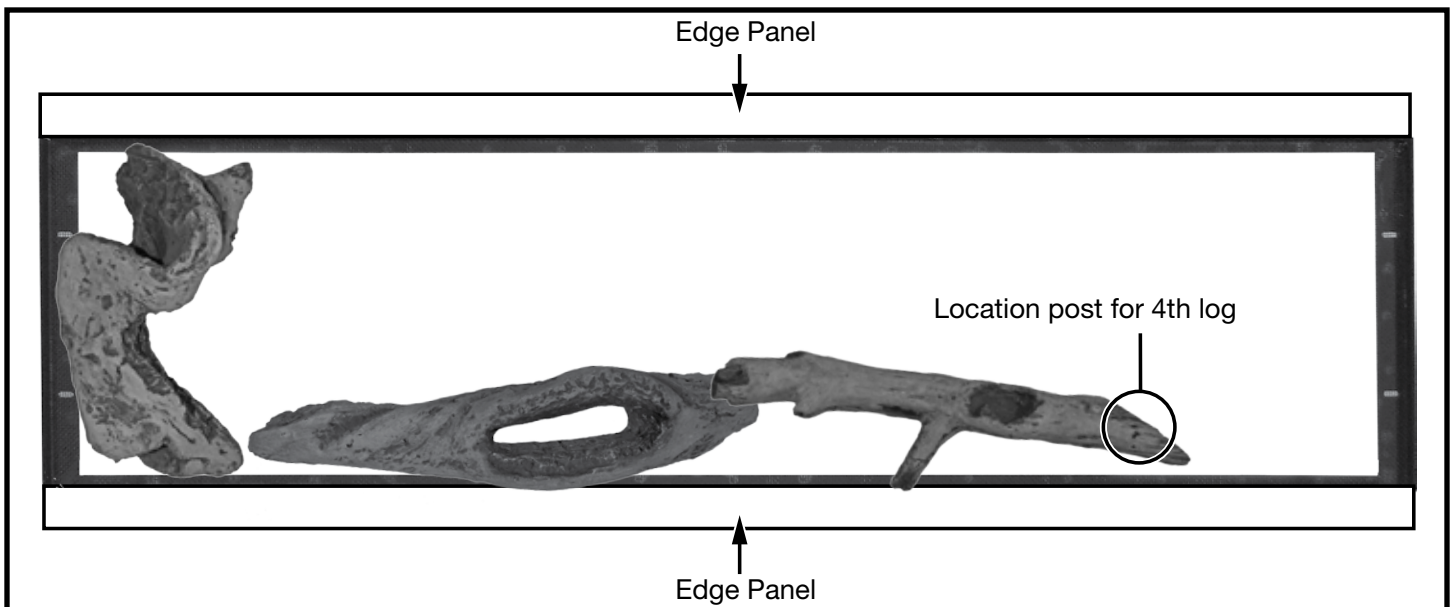

Figure 40: Log 3 placement.
- The 3rd log has a socket on the bottom of one end which will fit onto the location post of the 2nd log. Once the socket and location post have been mated, move the opposite end of the 3rd log toward the edge panel so that its' middle branch is resting on the edge panel (Figure 40).